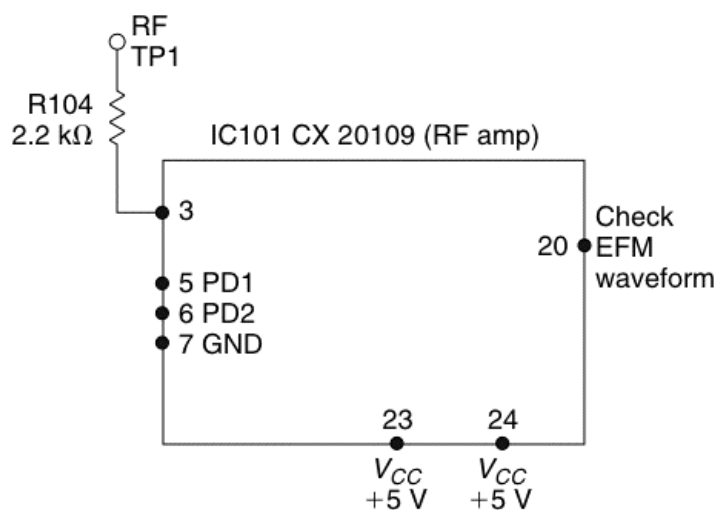

FIGURE 25-20 A defective IC101 (RF amp) shut down this Sanyo CP-500 CD player.
Sanyo CP500 chassis shutdown In a Sanyo CP-500 CD player, the laser diode lights, the focus and tracking coils began to search, then the chassis shuts down. The scope probe was connected to pin 20, to determine if the RF preamp IC101 was providing an EFM signal (Fig. 25-20). The RFO eye pattern can be checked at test point TP1 (RF) or terminal 3. Often, the servo IC will shut down the chassis if the EFM signal is not present at the RF IC amp.